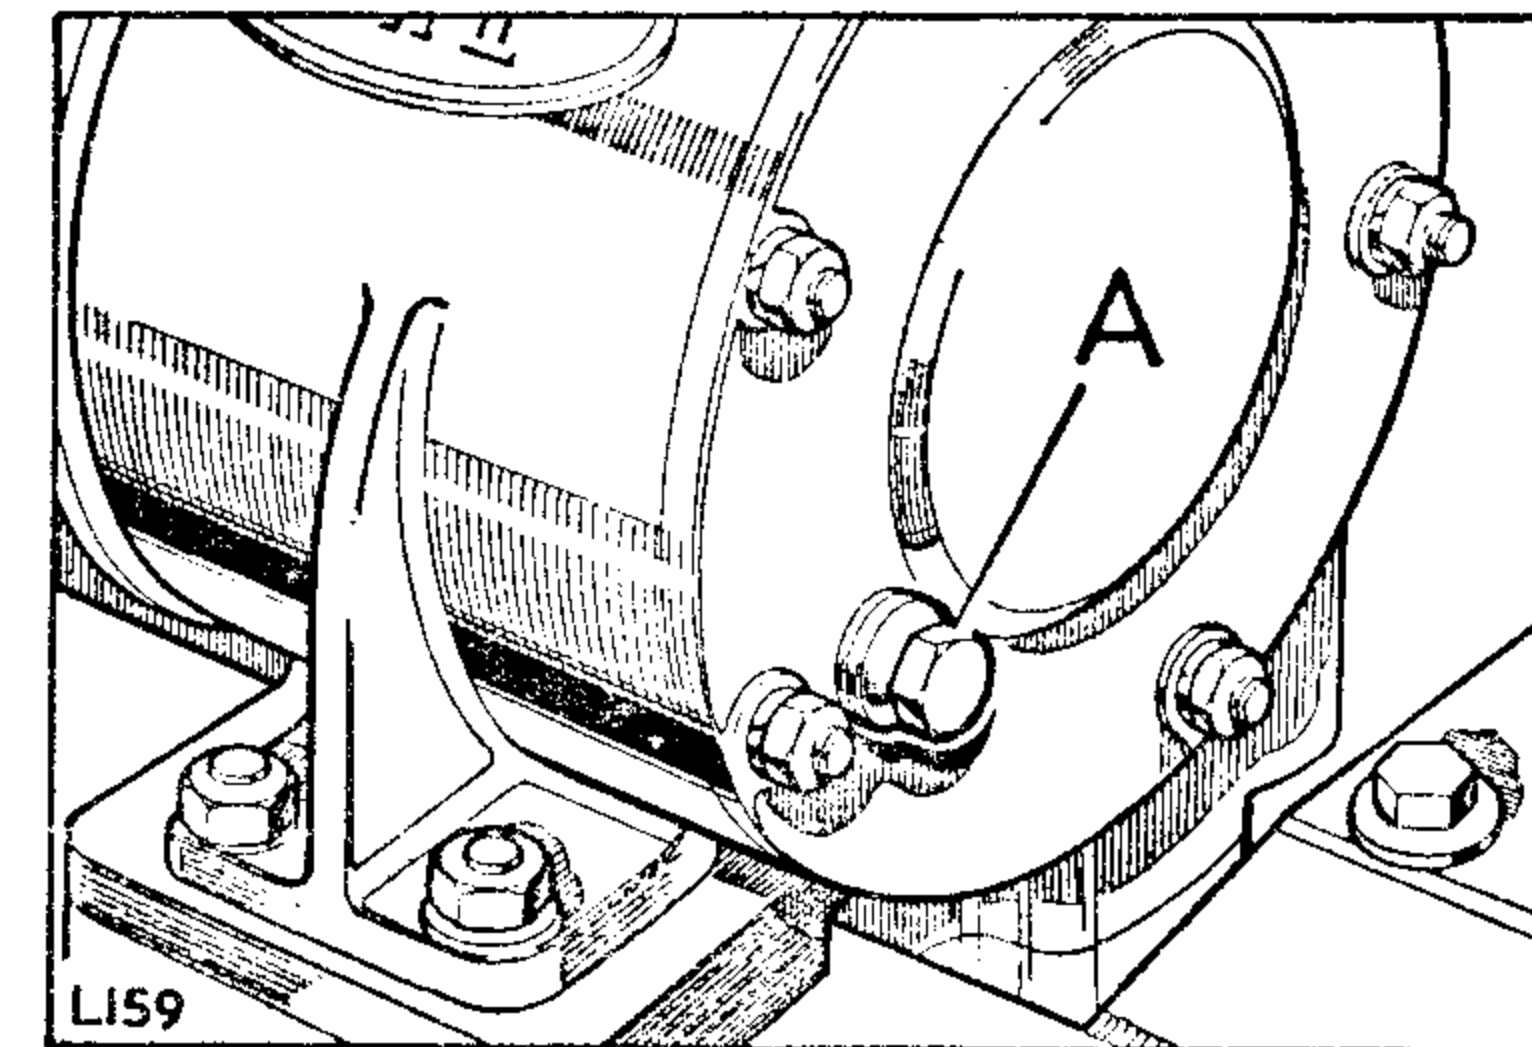

Fig. 79
2. Oil level in winch gearbox. Every 40 operation hours check the oil level by removing the level plug (A) Fig. 79 in the side of the end casing. Replenish as necessary, to the bottom of the level plug hole.